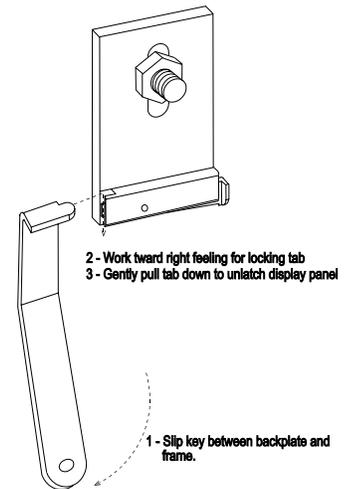

Figure 3.1 - Display Panel Latch
- 2) Remove the display panel front from the mounting back plate using the special latch tool included. (See figure 3.1)